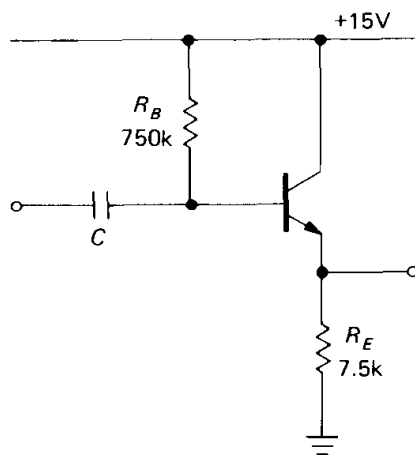

Figure 2.19. Don't do this!
Unfortunately, you sometimes see circuits like the disaster shown in Figure 2.19. R_B was chosen by assuming a particular value for h_{FE} (100), estimating the base current, and then hoping for a 7 volt drop across R_B . This is a bad design; h_{FE} is not a good parameter and will vary considerably. By using voltage biasing with a stiff voltage divider, as in the detailed example presented earlier, the quiescent point is insensitive to variations in transistor beta. For instance, in the previous design example the emitter voltage will increase by only 0.35 volt (5%) for a transistor with $h_{FE} = 200$ instead of the nominal